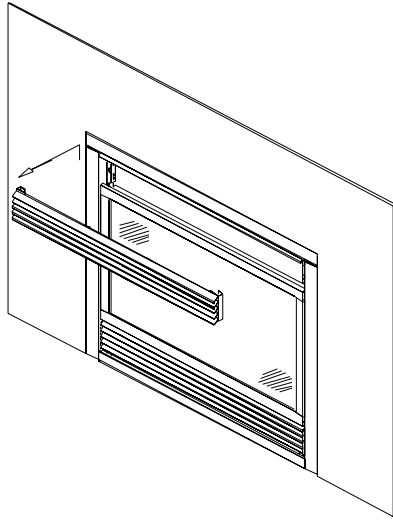

Figure 4.1 – Top Louvre Assembly Removal
3. Remove the top louvre assembly by lifting the assembly upwards and then out; (see Figure 4.1).